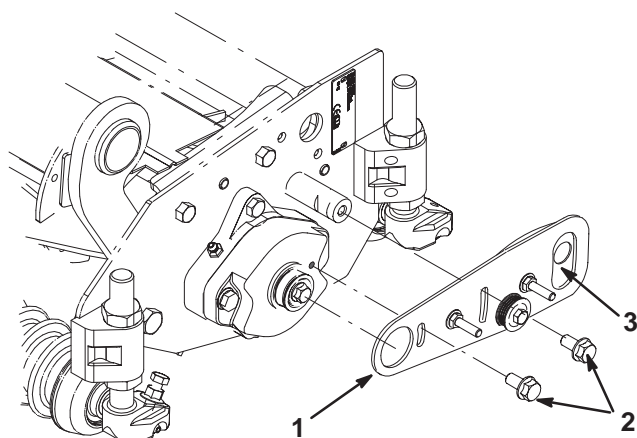

**Figure 7**
7. On motor end of cutting unit, remove bolt and flange nuts securing rear roller shaft to support rods. On opposite end of roller, loosen bolt and flange nut securing shaft to support rod. Slide roller to weight end; and lock roller shaft to support rod with bolt (to keep shaft from rotating) (Fig. 7).
8. Using a 5/16" wrench, remove straight grease fitting from weight end of roller shaft (Fig. 7).
9. Using a 3/8" wrench, thread a 90 degree grease fitting into end of roller shaft until approximately 1/8" thread is exposed. Do not over tighten. Grease fitting to be pointing down (Fig. 7).